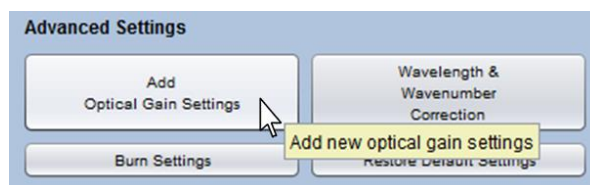

Figure 6.7: Opening wizard for the creation of new optical gain settings
1. Click on “Add Optical Gain Settings” button to open the wizard. (see Figure 6.7)